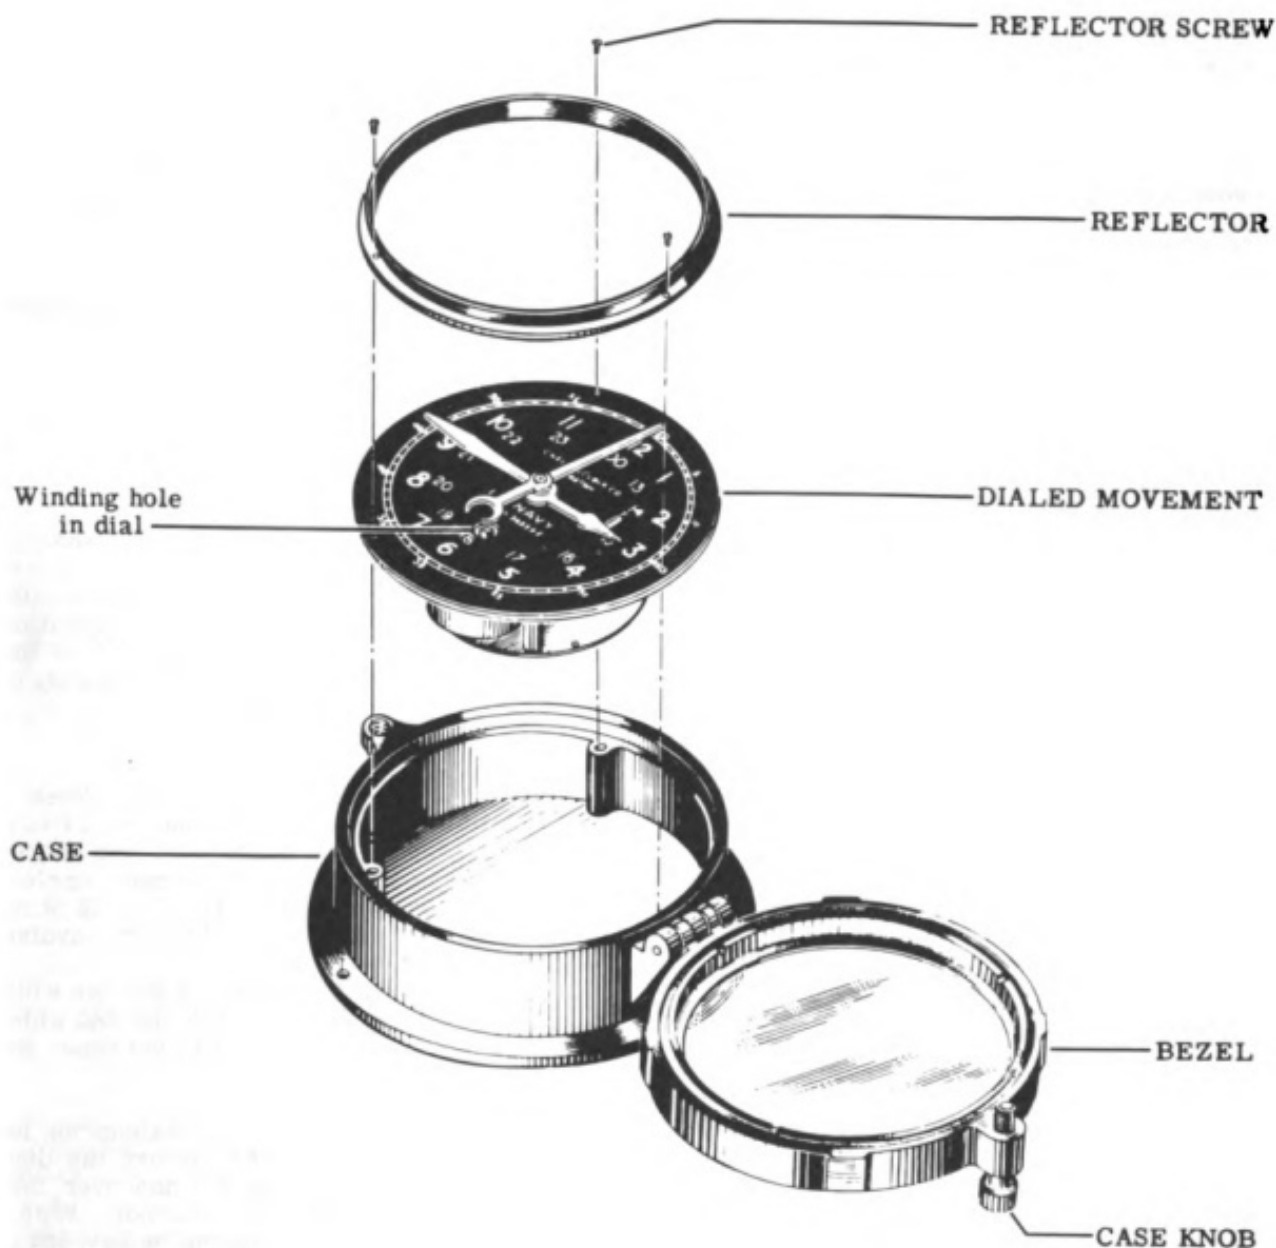

Figure 13
1. With the fingers, loosen the case knob on the side of the bezel until the bezel can be swung open. The bezel need not be removed—it should just be turned completely out of the way of the dial. Fig. 13 shows the relative positions of the parts involved.
2. Unscrew the three reflector screws which hold the reflector on to the dial and which hold the dialed movement in the case. See Fig. 13.
3. Place a winding key, or a mainspring let-down key (Tool No. 5A), through the dial winding hole (see Fig. 13) and over the squared end of the barrel arbor. With a tilting and lifting motion on the key, lift up one edge of the dial so that it can be grasped with the fingers.